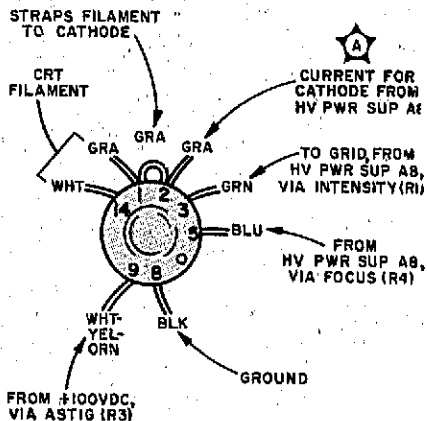

Figure 5-6. CRT Base as Seen from Rear, CRT Protective Cover Removed
- Wiring to CRT base is shown in Figure 5-6. Note gray wire designated A; clip milliammeter probe around gray conductor A.